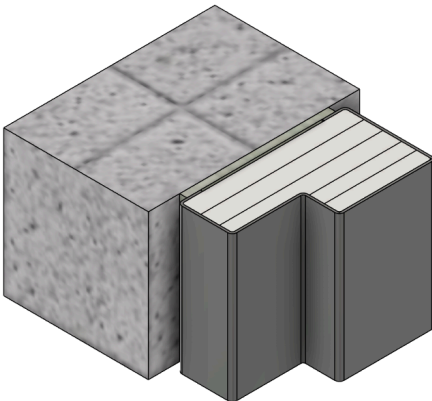

Fig.15
Step 3. Screw Placement. 6g (Gauge) x 152mm Concrete Screws through the face of the steel jamb. Minimum 120mm from top and bottom, maximum 500mm between centres, one screw at jamb height / 2. Both legs and the head alike. (same render as Fig.15)